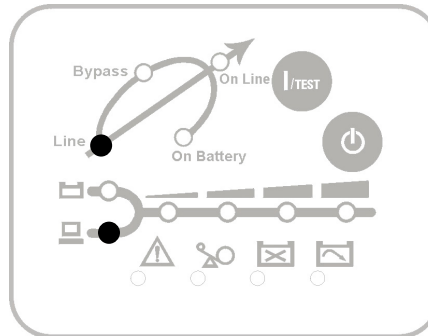

Fig 2.7 Stand-by mode
2. Turn on the input breaker (if the breaker can be turned on) on the rear panel of UPS. After that, the fan (in rear panel) will run and, as a front panel test, all LEDs will light up for about 2-3 seconds. The UPS starts up in 'STAND-BY' mode and the battery will be charged. See fig 2.7.